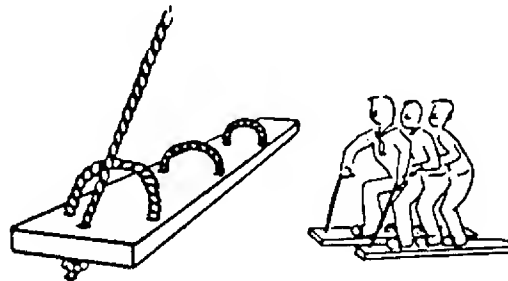

Figure 406 Summer Snowshoes
11. Summer Snowshoes: Build a couple of pair of "summer snowshoes" out of 1 inch by 8 inch lumber. These snowshoes can be built long enough to carry eight people or as few as one. See Figure 406. Race two or three groups together and you will see this exercise is excellent for building coordination.